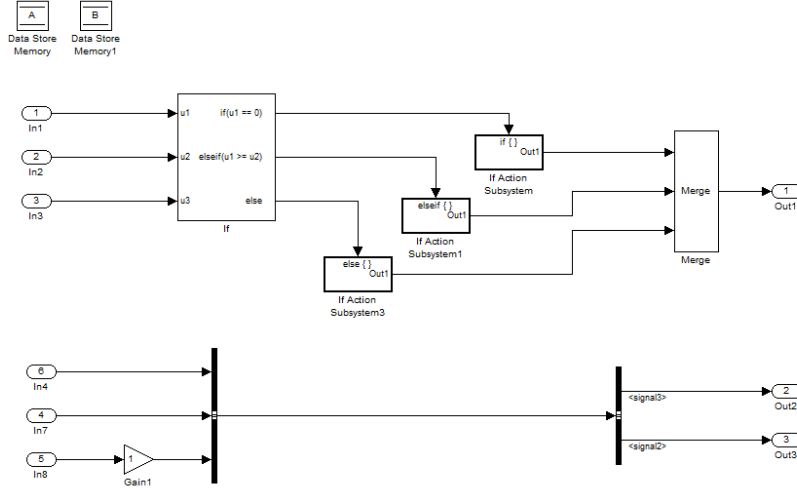

Figure 3: Reach/Coreach demo model
Use the command `ReachCoreachDemo` in the Simulink command window to open the example model, shown in Figure 3. This example has control and data flow
2. To clear the highlighting now present in the model due to the previous reach operation, right-click anywhere in the model and select the **Clear Highlighting** option. This will revert the model's appearance to that of Figure 3.